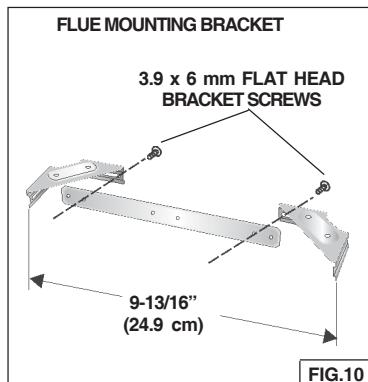

FIG.10
1. Assemble the flue mounting bracket, adjusting outside width as shown. Fig.10